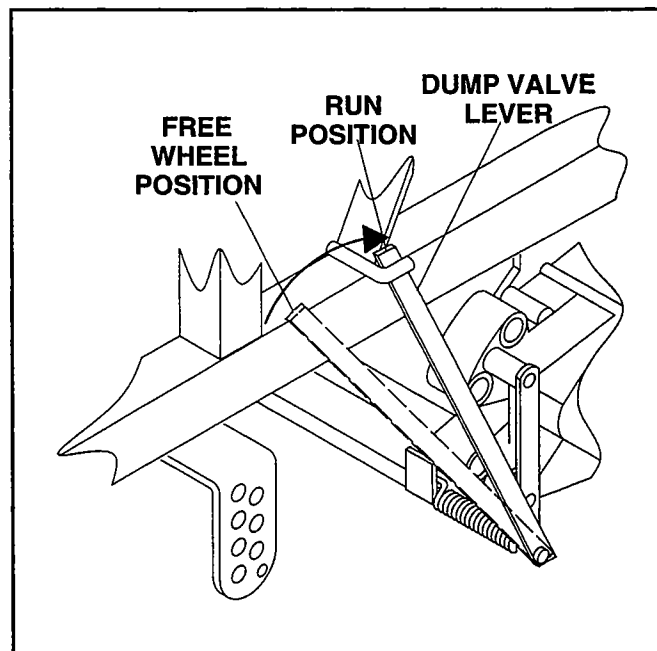

Figure 7
2. Move dump valve lever, on LH side of mower, behind hook on frame to close hydraulic dump valves on pump. (See **Figure 7**) Pull lever back and to the left, then push forward to relieve pressure.
To release drive wheel so machine will roll without engine running, pull dump valve lever for hydraulic dump valve back from hook on frame. Move to left and push forward to relieve pressure. Lever is on LH side of mower. (See **Figure 7** on page 7)